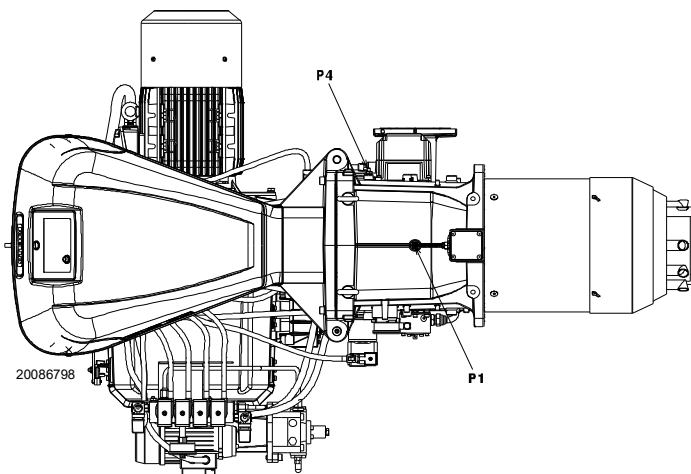

Fig. 23
Gas pressure measured at the test point 1)(Fig. 23), with:
- subtract the combustion chamber pressure from the gas pressure measured at test point 1)(Fig. 23);
- Gas pressure at test point 1)(Fig. 23) = 11.7 "WC